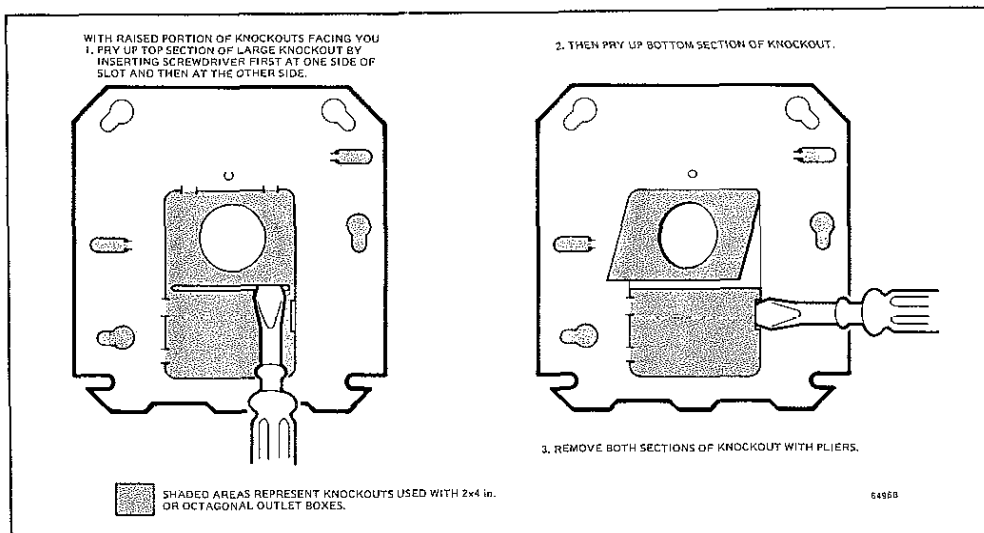

Fig. 4—Removing large center knockout.
1. Remove large center knockout in mounting plate as illustrated in Fig. 4.